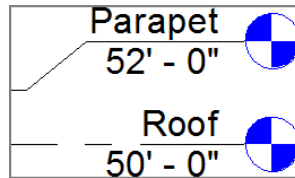

FIGURE 3.16: The Roof and Parapet levels
7. Press Esc. Your levels should look like Figure 3.16.